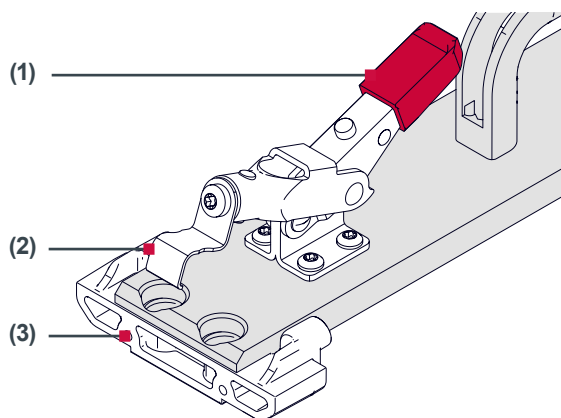

Fig. 2 Attaching the lock bracket
1. Pull the first clamping lever (1) on the assembly aid upwards to release it, and position the lock bracket (3) as shown in Figure 2.
2. Guide the retaining plate (2) over the lock bracket and close the clamping lever (1).